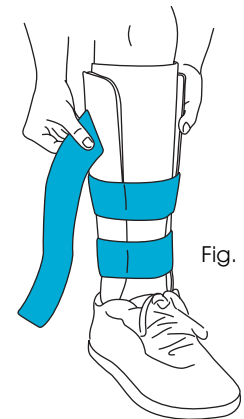

Fig. 5
- Secure remaining straps from bottom to top (Fig. 5).